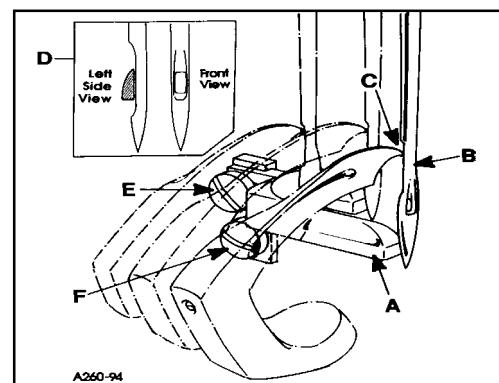
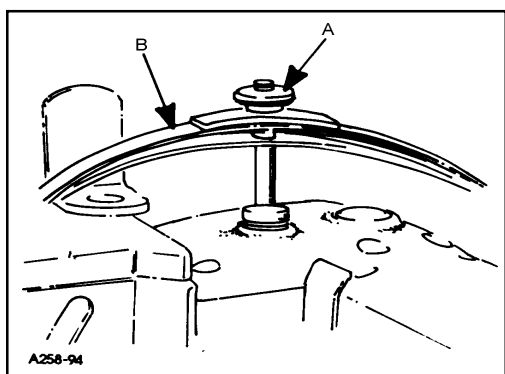
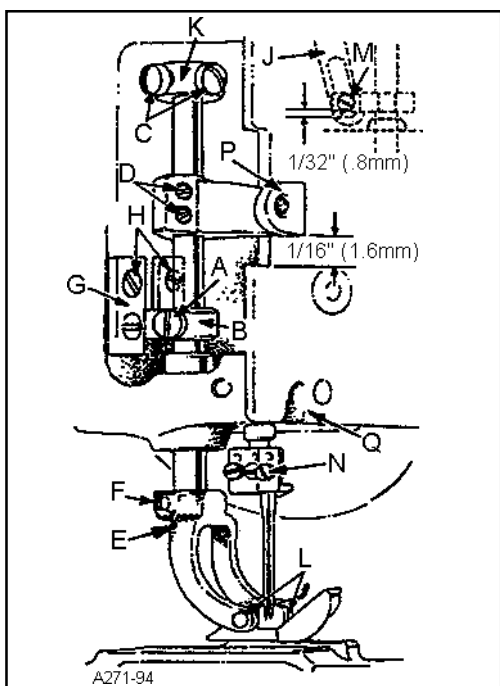

FIG. 13
FIG. 14
FIG. 15
Set the rear needle guard (A, Fig. 13) horizontally to touch and possibly deflect slightly to obtain solid guarding of all needles (B) when at its extreme forward position. If adjustment is necessary loosen screw (E) and move guard front to back as required. It should be set vertically as low as possible, yet have its guarding surface in contact with the needles until the points of the loopers (C), moving to the right, are even with the right side of the needles. If adjustment is necessary loosen screw (F) and move guard and holder up or down as required.
**NOTE:** When installing the needle it should be parallel with the eye in line of feed. If adjustment is necessary, loosen screw (N, Fig. 15) in needle head and rotate needle to attain adjustment (D, Fig. 13).
Remove presser bar leaf spring (B, Fig. 14) and nut (B). Loosen screw (A, Fig. 15) on presser bar guide (B). Loosen screws (C) in upper collar and screws (D) in needle lever thread pull-off lever.. Slide presser bar upward high enough to slip on presser foot yoke (E) with foot attached and tighten screw (F) on flat of presser bar. Position foot so that the needle holes in the foot line up with the holes in the throat plate. Tighten screw (A)
Presser foot guide plates (G, Fig. 15) should be set so that entire presser foot and bar assembly has free movement up and down with no left to right movement.
With foot properly aligned on throat plate and presser bar guide (B, Fig. 15) securely fastened to presser bar, adjust both guide plates (G) to obtain above setting. Tighten four screws (H).
Reinstall presser bar spring (B, Fig. 14) and knob (A), with presser foot resting on throat plate.
The presser foot should be adjusted to be 1/8" (3.17mm) above the throat plate before the feed roller mechanism begins to rise.. Loosen screw (A, Fig. 15) in presser bar lifter and guide (B), raise or lower guide as required to attain the specified point at which the feed roller begins to rise. Retighten screw (A) and maintain needle settings.
NOTE: There should be a minimum 1/32" (0.8mm) clearance between screw (M, Fig. 15) and the bottom of the slot in link (J).
Regulate the pressure on the presser foot by turning the presser spring regulating knob (A, Fig. 14) located on top of pressure foot spring (B)..
To remove just the presser foot, remove screws (L, Fig. 15) and replace foot, retighten screws (L).